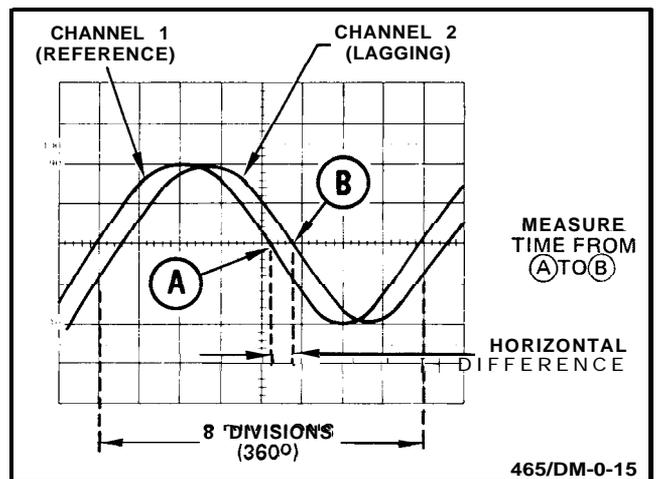
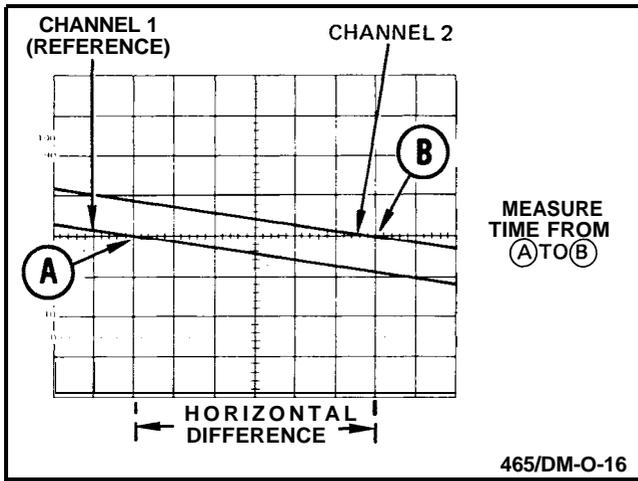

Figure 18. Phase difference.
Figure 19. High-resolution phase difference.
9. Position the displays and adjust the SEC/DIV Variable control so that one reference-signal cycle occupies exactly 8 horizontal graticule divisions at the 50% rise-time points (see Figure 18). Each division of the graticule now represents 45° of the cycle (360° ÷ 8 divisions), and the horizontal graticule calibration can be stated as 45° per division.
**EXAMPLE:** The horizontal difference is 0.6 division with a graticule calibration of 45° per division as shown in Figure 18.
**EXAMPLE:** If the sweep rate were increased 10 times with the magnifier (X10 Magnifier out), the magnified horizontal graticule calibration would be 45°/division divided by 10 (or 4.5°/division). Figure 19 shows the same signals illustrated in Figure 18, but magnifying the displays results in a horizontal difference of 6 divisions between the two signals.